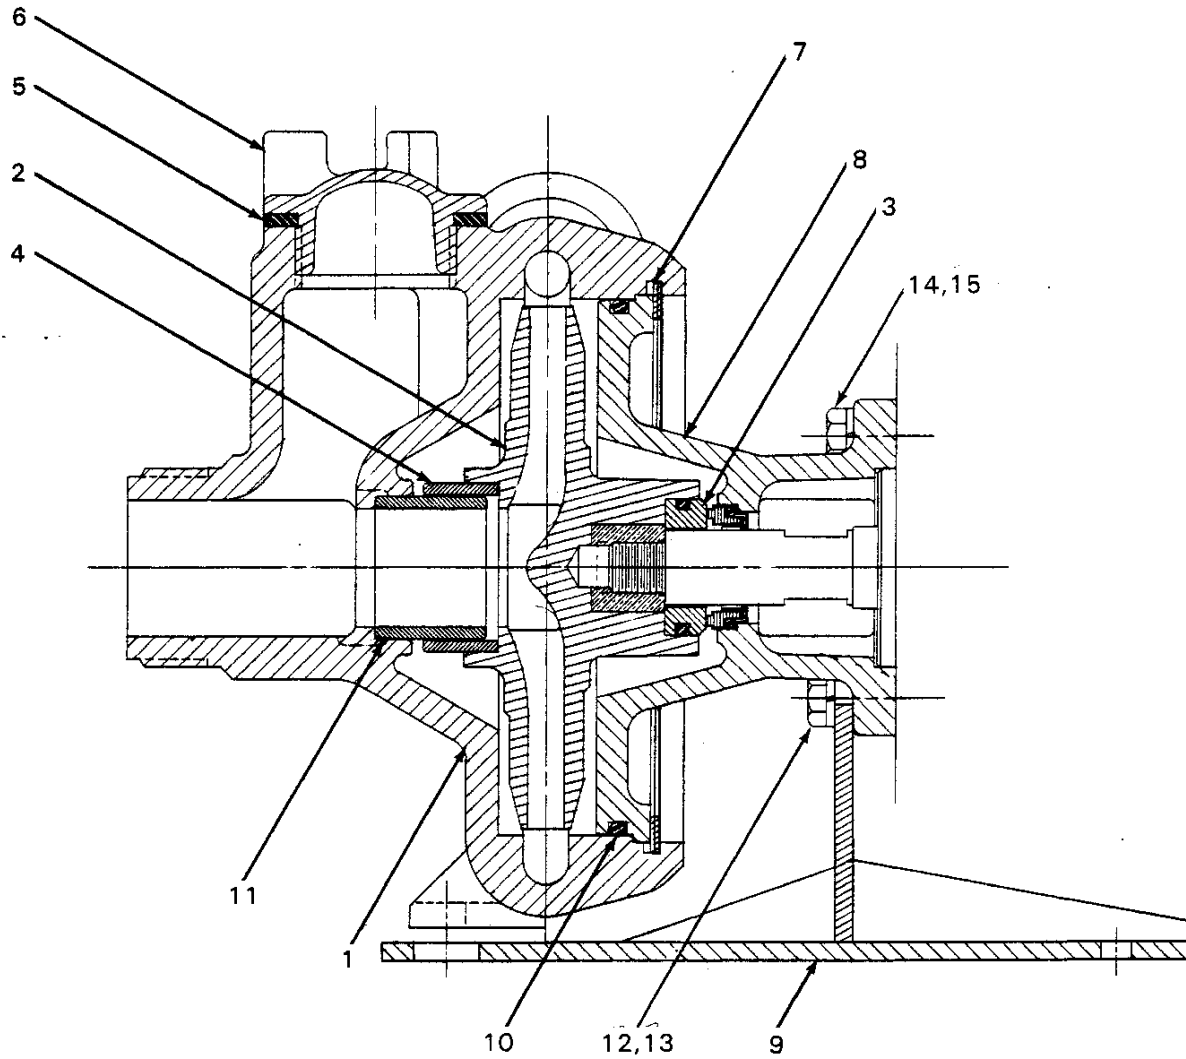

Figure 2. Sub-Assembly Pump Model 61 1/2 DF
For access to the impeller (2, figure 2), and seal assembly (3), separate the volute housing (1) from the intermediate bracket (8).
Disengage snap ring (7, figure 2), securing the volute housing to the intermediate bracket and separate the assemblies. The impeller is now accessible.
Remove fill cap (6, figure 2) and fill the volute with clean liquid and make certain that all piping is securely tightened before starting the pump.